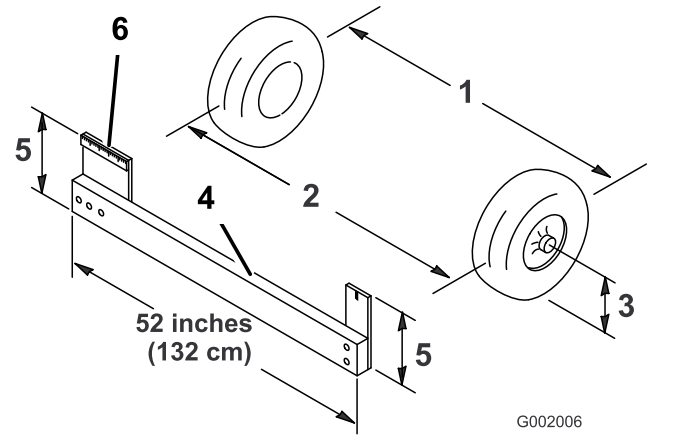

Figure 50
- Measure the distance between both of the front tires at the axle height at both the front and rear of the front tires (Figure 50).
Note: You will need a fixture or alignment gauge for measuring the rear of the front tires at axle height. Use the same fixture or alignment gauge to accurately measure the front of the front tires at axle height (Figure 50).